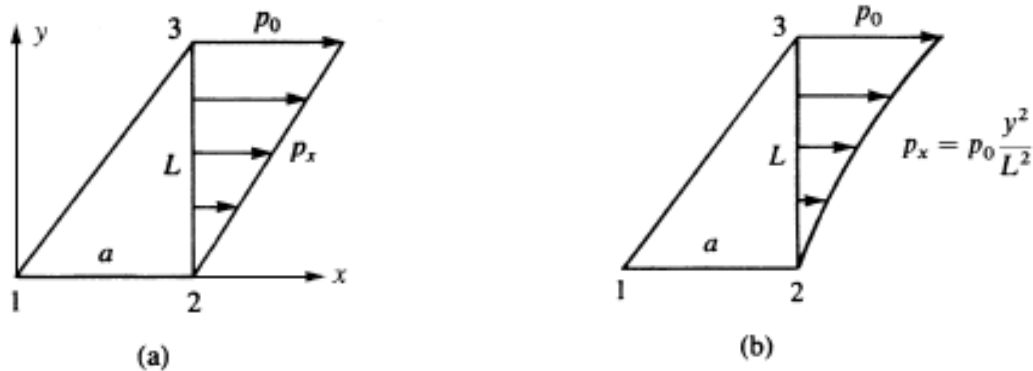

Figure P8.1
1. Determine the nodal forces for (a) a linearly varying pressure p_x on the edge of the triangular element shown in **Figure P8.1(a)** and (b) the quadratic varying pressure shown in **Figure P8.1(b)**. Assume the element thickness is equal to t .